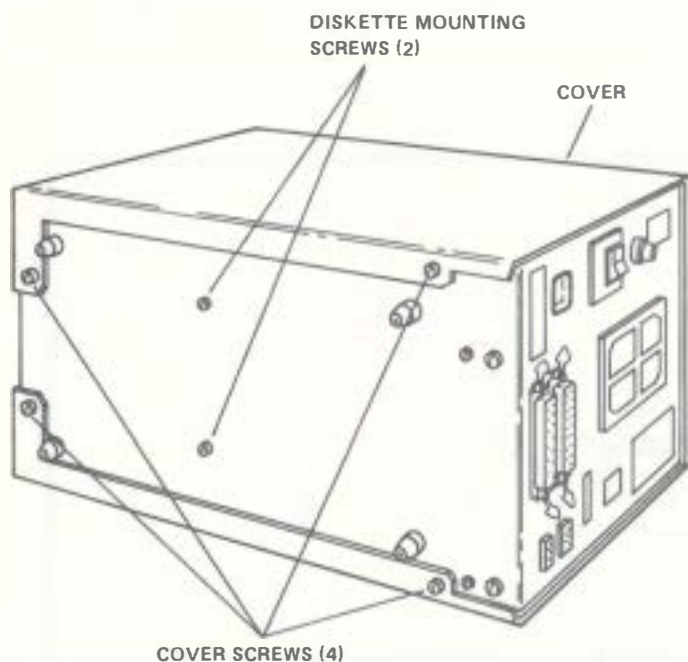

Figure 5-26. 8" Diskette Drive Assembly (Bottom View)
7. Locate and remove the mounting screw securing the diskette drive to the housing. See Figure 5-26.
3. Replace the mounting screw that secures that diskette drive to the housing. See Figure 5-26.
7. Place the diskette drive assembly on its side again and replace the four cover mounting screws on the bottom. See Figure 5-26.